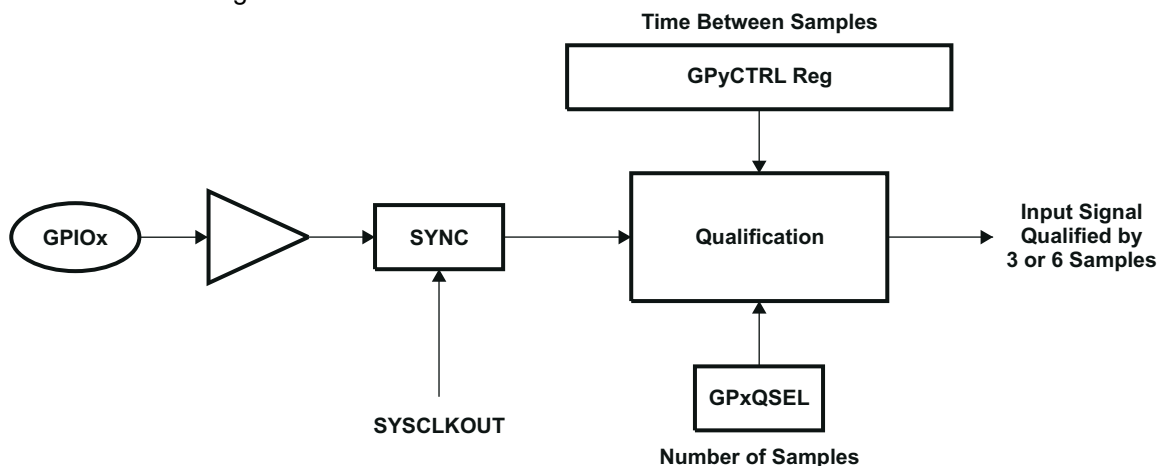

图 8-17. Qualification Using Sampling Window
- The sampling period is specified by the QUALPRD bits in the GPxCTRL register and is configurable in groups of 8 signals. It specifies a multiple of SYSCLKOUT cycles for sampling the input signal. The sampling window is either 3-samples or 6-samples wide and the output is only changed when all samples are the same (all 0s or all 1s) as shown in 图 8-17 (for 6-sample mode).